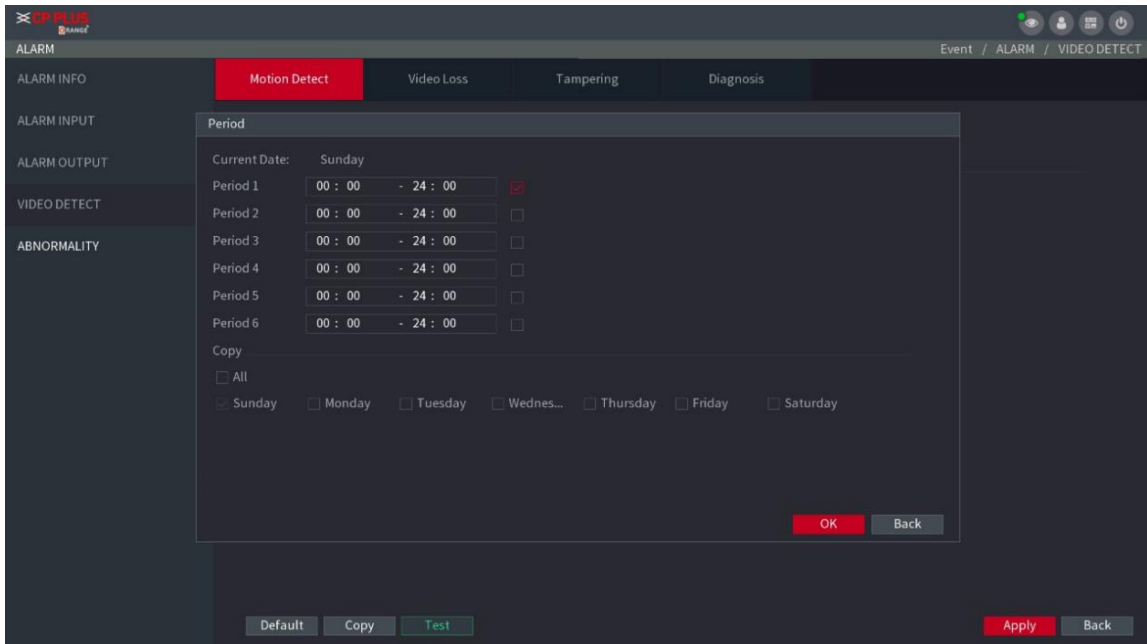

Figure 5-89
**Step 3** Select **Main Menu** → **Event** → **VIDEO DETECT**, and select the event type to configure, for example, select the **Motion Detect** tab. See Figure 5-89.